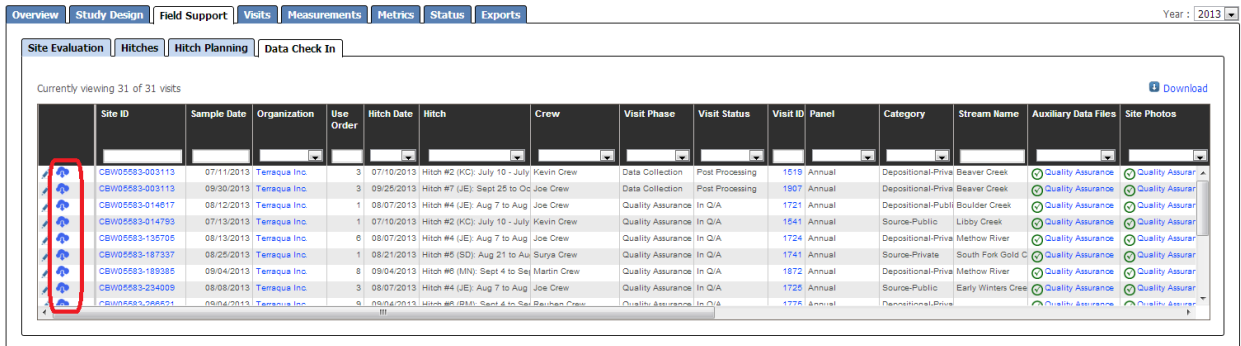

Figure 4. The blue icon (circled in red) beside the site of interest is clicked to manage stream temperature data directly to CHaMPmonitoring.org.
4. Click the blue cloud icon in the left-most column (Figure 4). Make sure you are selecting the correct visit; 2014 data should be uploaded to the 2014 visit (not 2012, 2013, or 2014).